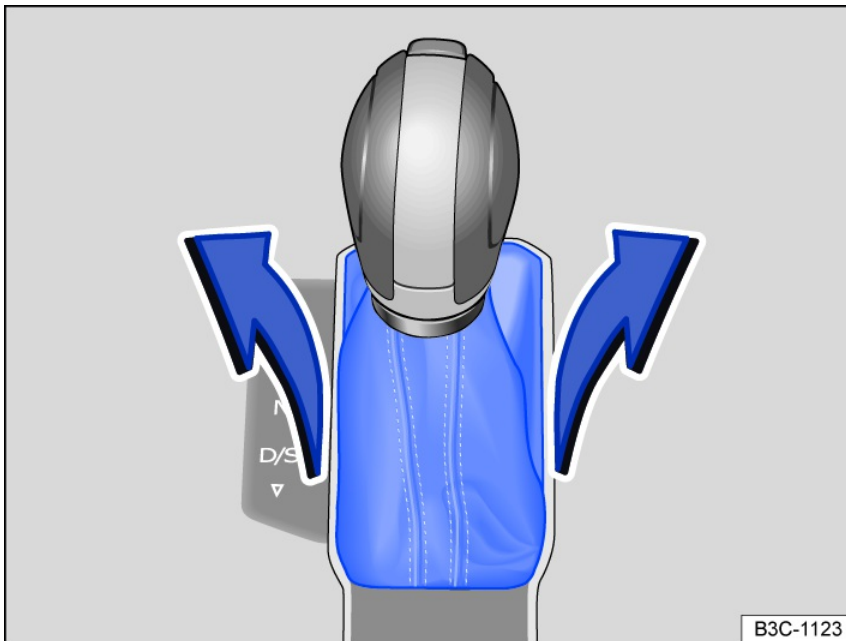

Fig. 104 Remove the cover on the shift gate.
- Pull the cover near the selector lever boot upward carefully with the wires connected fig. 104.